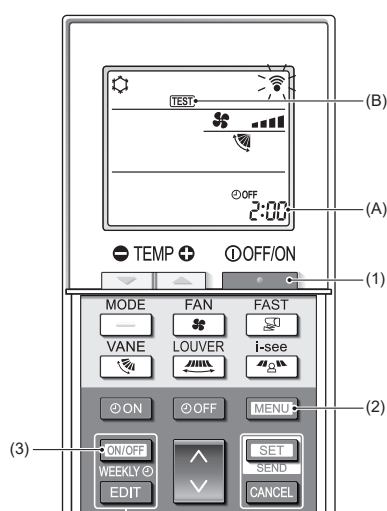

Fig. 7-5
7.2.2. Using wireless remote controller (Fig. 7-5)
■ Test run (Fig. 7-5)
- Press the button (1) to stop the air conditioner.
- If the weekly timer is enabled (WEEKLY is on), press the button (3) to disable it (WEEKLY is off).
- Press the button (2) for 5 seconds.
- Press the button (2).
- (B) comes on and the unit enters the test run mode.